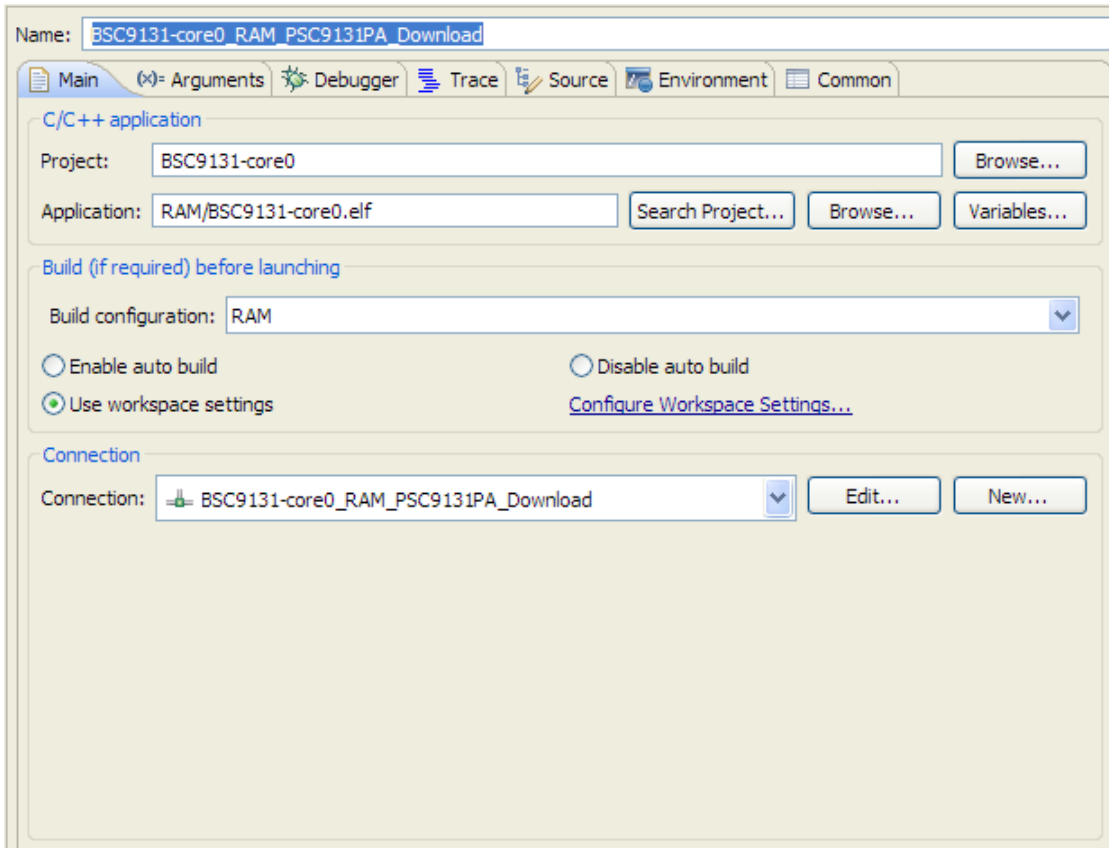

Figure 24. Settings for the BSC9131 Power Architecture project
3. For this example, a two-TAP scheme is used with the caches disabled, so choose the BSC9131-core0_RAM_PSC9131PA_Download configuration. Note that the name also uses PSC9131PA, which specifies the two-TAP scheme. Details of the settings for this particular configuration appear at the right in the **Debug Configurations** window (Figure 24).